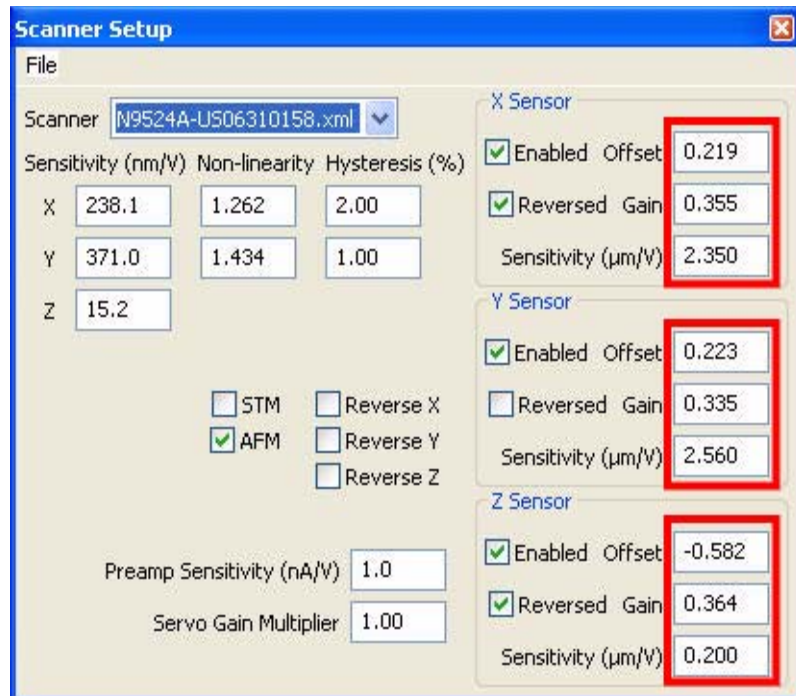

Figure 106 Scanner Setup window
- 3 Choose **Scanner > Edit** to open the **Scanner Setup** window (Figure 106).
- 4 The values shown in Figure 106 for the X, Y and Z Sensor Offset and Gain are typical and represent a good starting point for the calibration process.